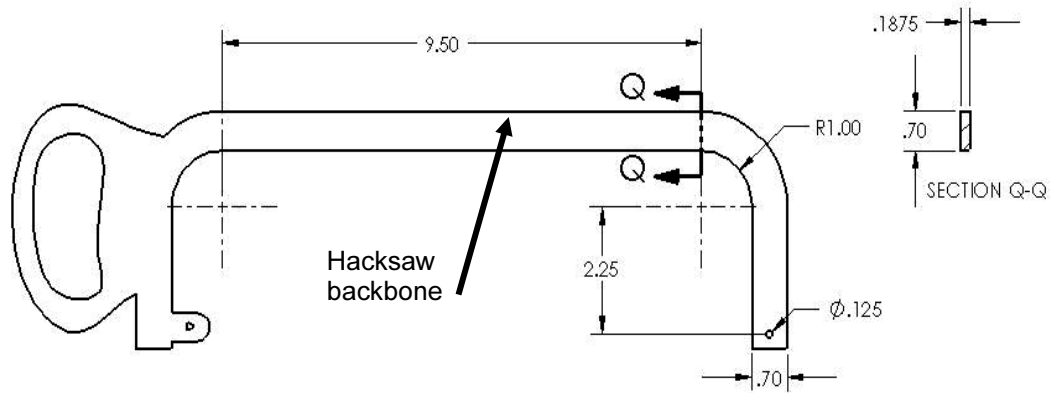

Figure E2-2 – Basic geometry of a hacksaw frame. Stress to be determined at Section Q-Q.
2. A common, metal-cutting “hacksaw” is shown in Fig. E2-2 below. A solid model of the hacksaw is available as file: **Hacksaw 2-2**. The model is simplified to include two round holes that pass through the lower-left and right ends of the hacksaw “backbone” labeled in Fig. E2-2. For purposes of analysis, the inside surface of the left-hand hole is to be considered **Immovable**. Use split lines to create a small “patch” of area on the inside surface of the hole located at the right end of the backbone. On this surface apply a 50 lb force induced by a tensile load in the saw blade that is ordinarily held in place between these two holes. Assume the following.